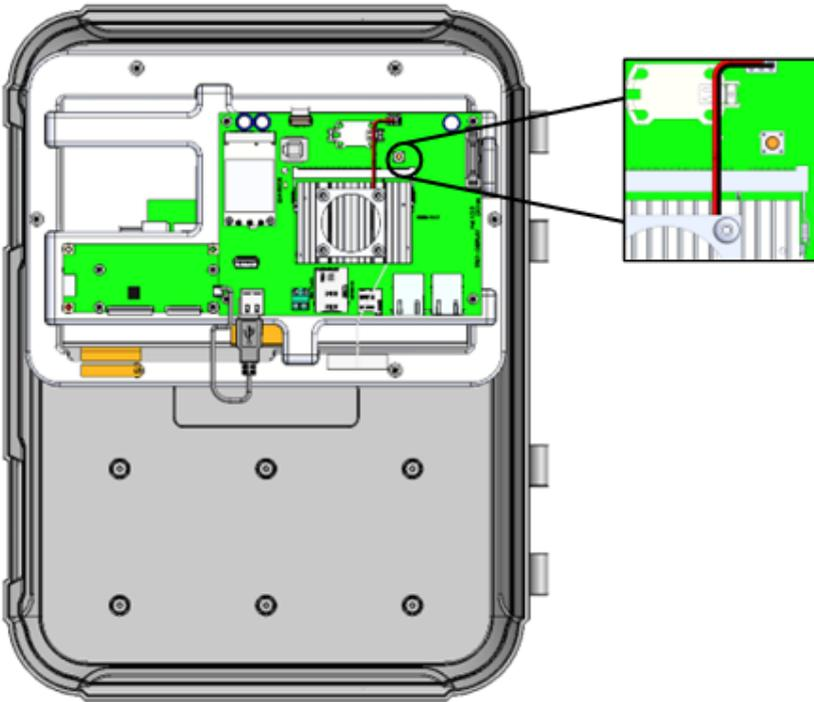

Figure 3: CPU Reset Button
- To reset the CPU and the user interface, press the button shown in Figure 3: CPU Reset Button.